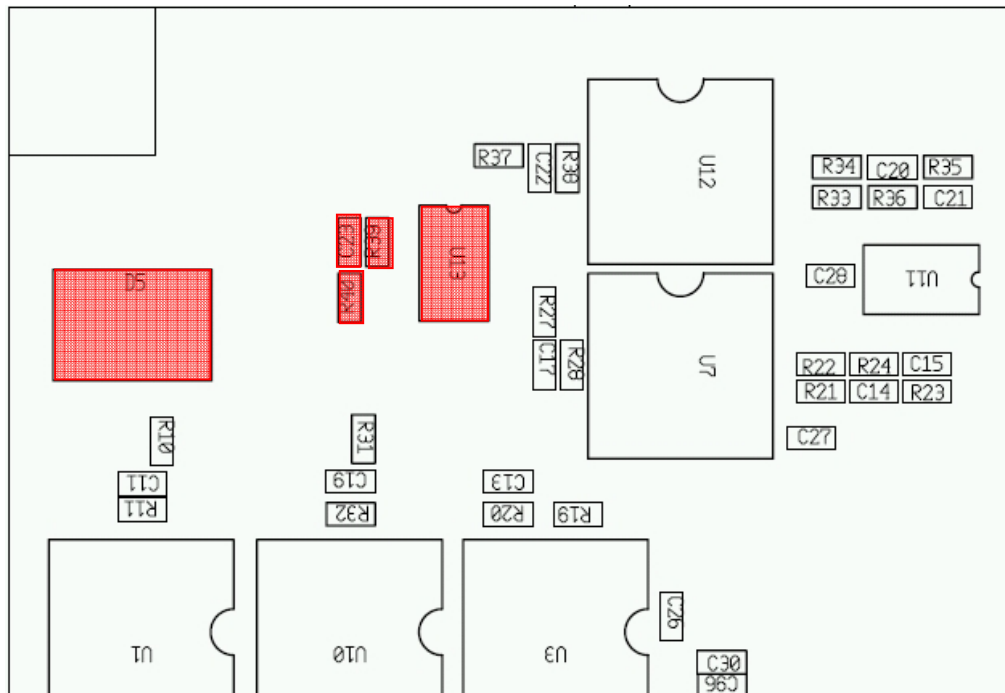

Fig.6. Unsoldered components from bottom side ELMB\_MBv6.5 related to point 3-e.
- (e) Unsolder opamp U13, resistor R39, R40, and capacitor C23. Unsolder also Transil D5, see Fig.6.